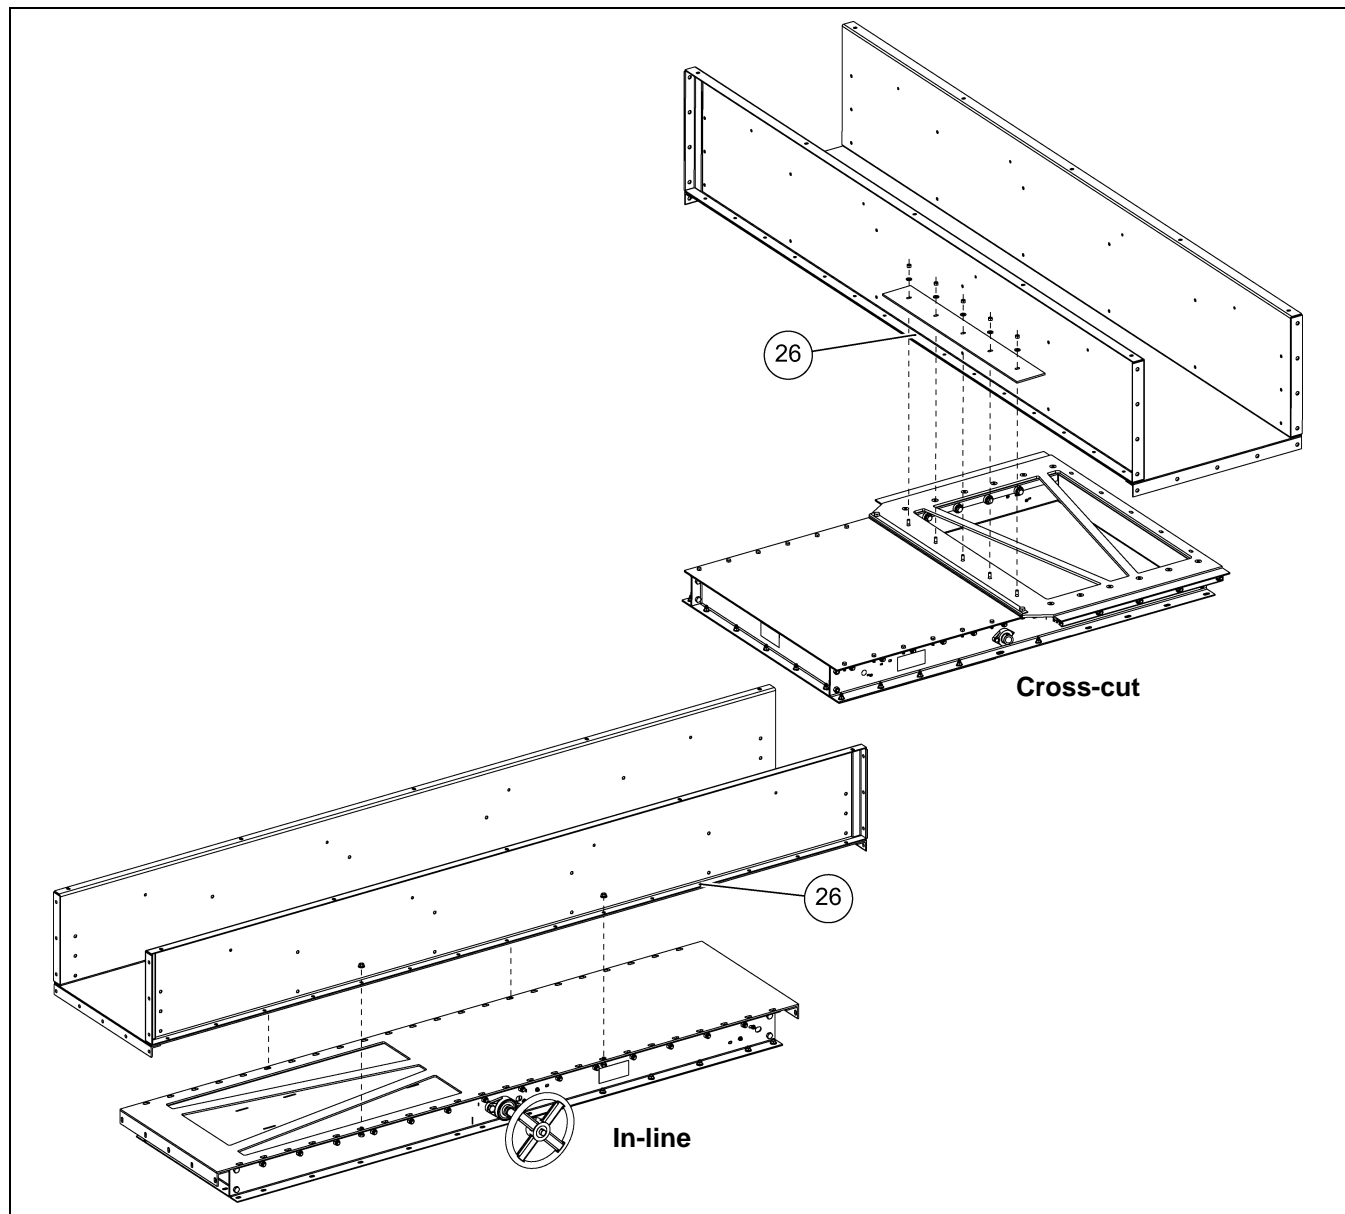

Figure 30
- 3. It may be necessary to drill the holes in the trough side flange. (See Figure 30.)